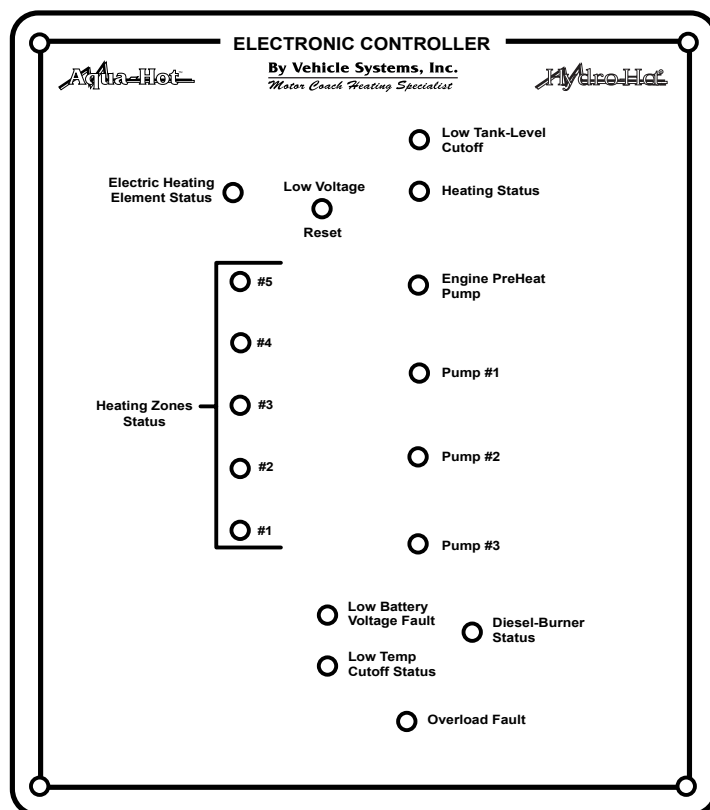

Figure 6
If the Aqua-Hot's Diesel switch "**Indicator Light**" does not illuminate and the Diesel-Burner is not functioning, locate the Electronic Controller (**Figure 6**) and check the following:
- A. Check the Aqua-Hot's Electronic Controller for any RED lights indicating a fault condition. Reference **Figure 6** and the Electronic Controller Troubleshooting section to identify these fault conditions.